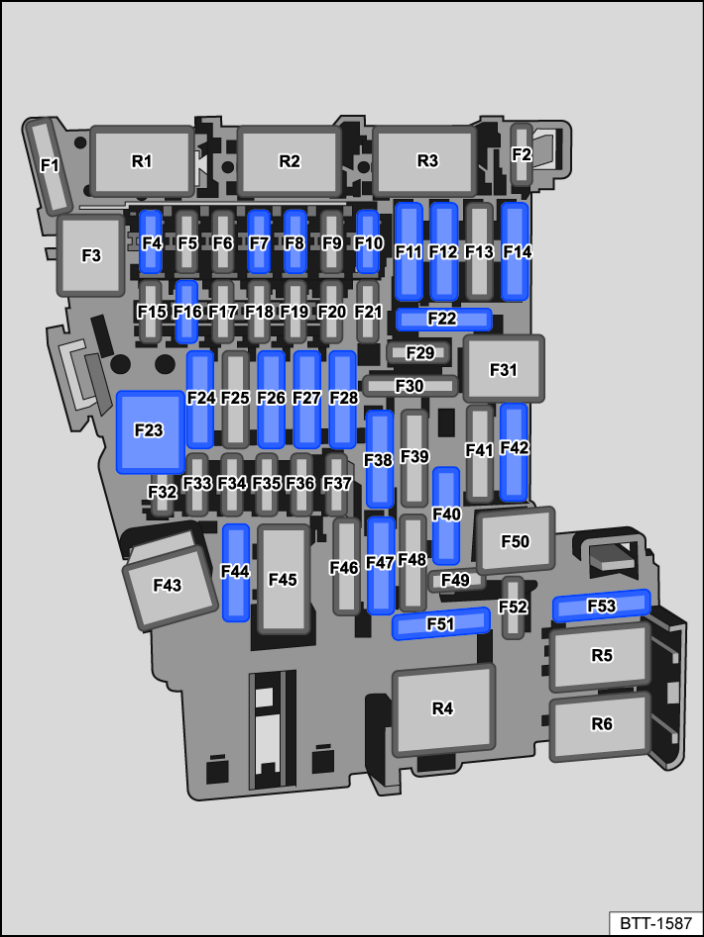

Fig. 1 In the dash panel: fuse assignment.
- Open the glove compartment and empty it if required → Fig. 1 **B**.
- Push the brake element down in the opening of the holder and pull it out on the side → Fig. 1 **B** ①.
- Press the stop pin in the direction of the arrow and open the stowage compartment further at the same time → Fig. 1 **B** ②.
- To *install*: Bring the stowage compartment in position → Fig. 1 **B**. Insert the damper element into the opening in the holder and slide upwards until it audibly engages. Press the stowage compartment carefully in front beyond the resistance of the stop pin → Fig. 1 **B** ②.
Fuse location → Fig. 1: